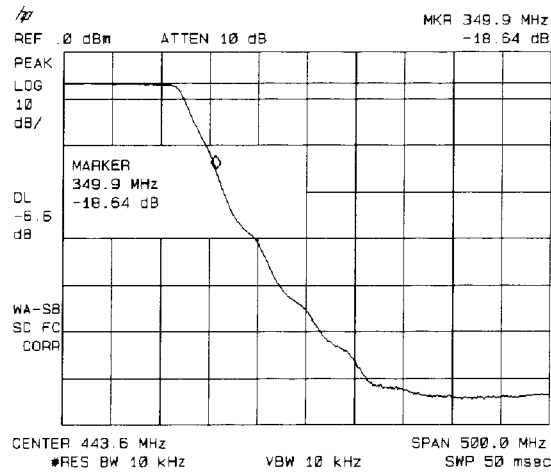

Figure 4-10. Measure the Rejection Range with Delta Markers
- To measure the rejection of the filter at a given frequency, press **MKR**, and enter the frequency. For example, enter 350 MHz. The marker readout displays the rejection of the filter at 350 MHz (see Figure 4-10).